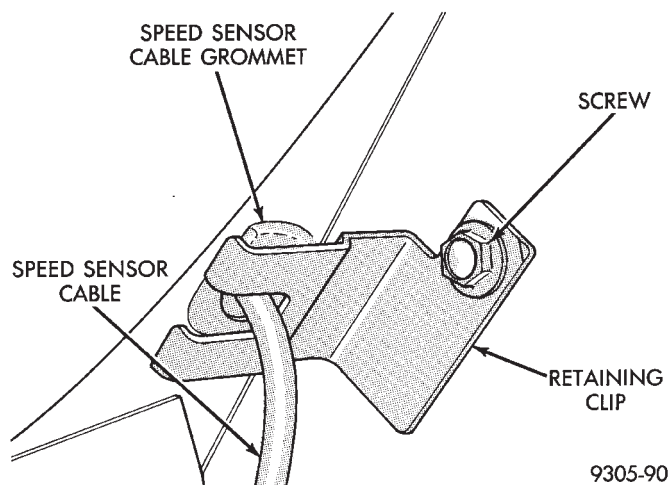

Fig. 11 Rear Speed Sensor Cable Retaining Clip
(3) Raise vehicle and remove rear wheel and tire assembly.
(4) Remove speed sensor cable grommet retaining clip (Fig. 11) from rear inner fender. Carefully pull speed sensor cable and grommet from hole in fender well.
(3) Insert speed sensor cable and grommet back in hole in rear inner fender. Install speed sensor cable grommet retaining bracket and securely tighten attaching screw (Fig. 11).